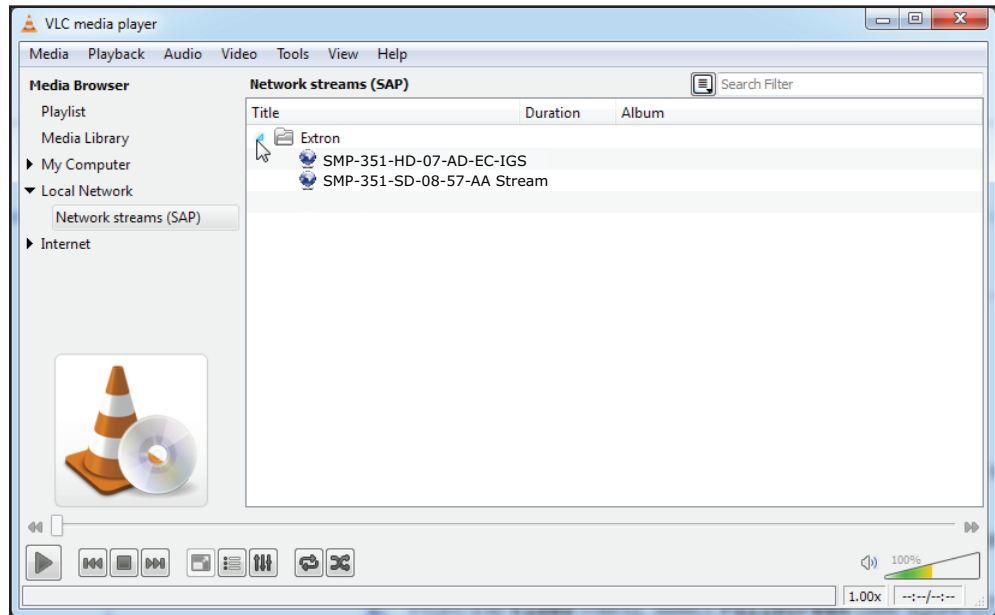

Figure 83. VLC - Select a Stream
3. VLC populates the playlist with all streams that contain SAP information. If a folder is shown, open it to view the SAP streams inside (see figure 83).